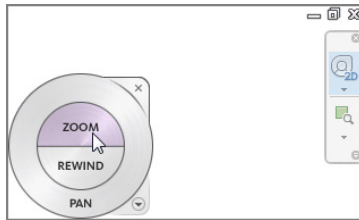

FIGURE 1.37: You can use the steering wheel to navigate through a view.
1. Go back to Floor Plan Level 1, and pick the steering wheel icon from the Navigation bar, as shown in Figure 1.37.
2. When the steering wheel is in the view window (as shown in Figure 1.37), left-click and hold Zoom. You can now zoom in and out.